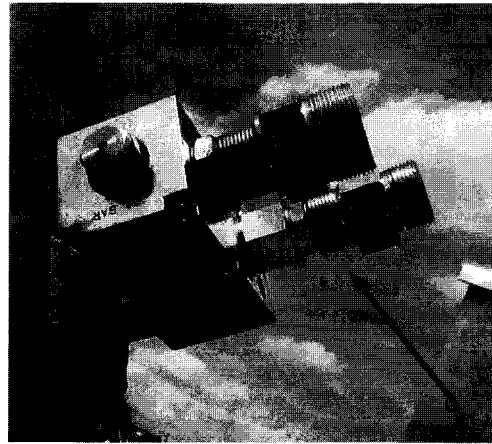

Fig. 4-1
- the "supply" hose (fig. 4-1),